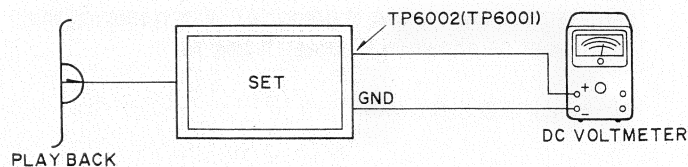

Figure 20
- (1) Make the connections as shown in Figure 20 and turn the power ON.
- (2) Insert a blank tape into deck A and adjust VR6061 so that the TP6002 output is 2 V DC when the tape is played back.
- (3) Insert a blank tape into deck B as in (2) for deck A, and adjust VR6062 so that the TP6001 output is 2 V DC when the tape is played back.
- (4) Insert test tape AC712 into both decks and make sure that the TP6002 and TP6001 outputs are 0.6 V or less (preferably lower) when the tape is played back.